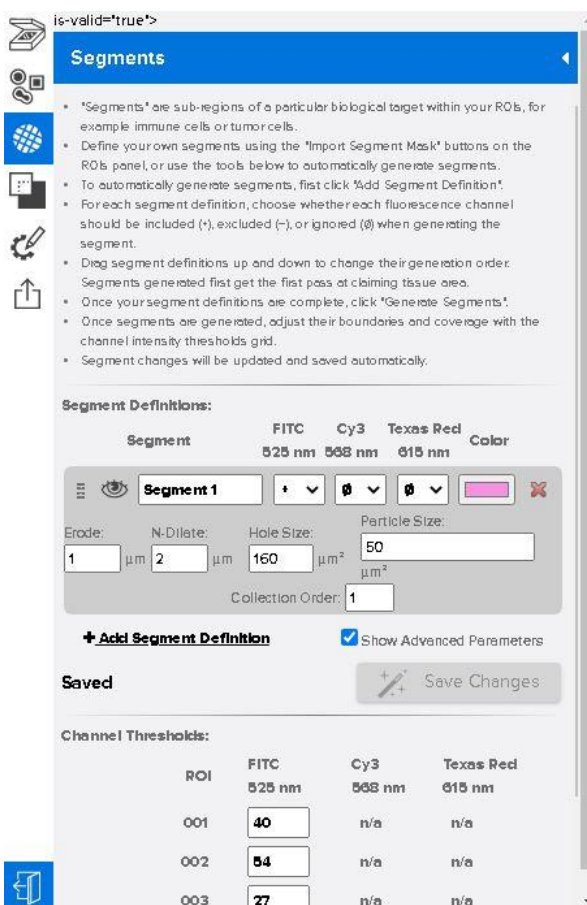

Figure 32: Scan Workspace segments panel
1. Open the **Segments Panel** (see Figure 32).